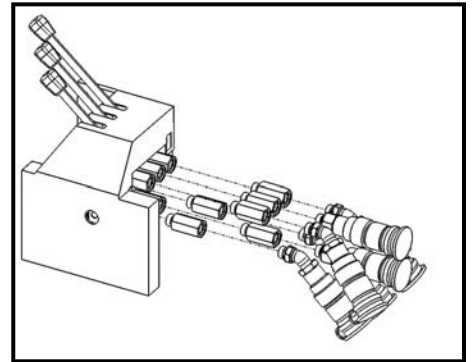

Figure 2.1: Add Extensions
- 2.1 Unscrew hydraulic couplings from manifold and install (6) additional hydraulic extensions into manifold as shown in Figure 2.1.